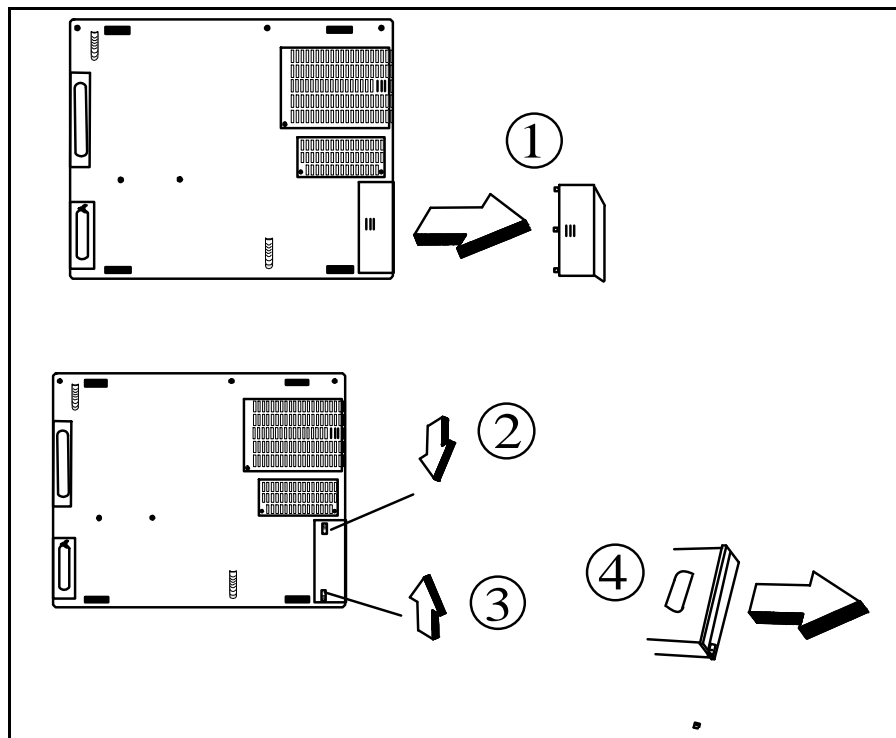

Figure 6-9 Removing/Replacing the Hard Disk Drive Module
3. Turn the computer over and remove the hard disk drive bay cover (refer to Figure 6-9).
4. Slide the two release tabs inward (Figure 6-9), slide the drive out of the notebook.